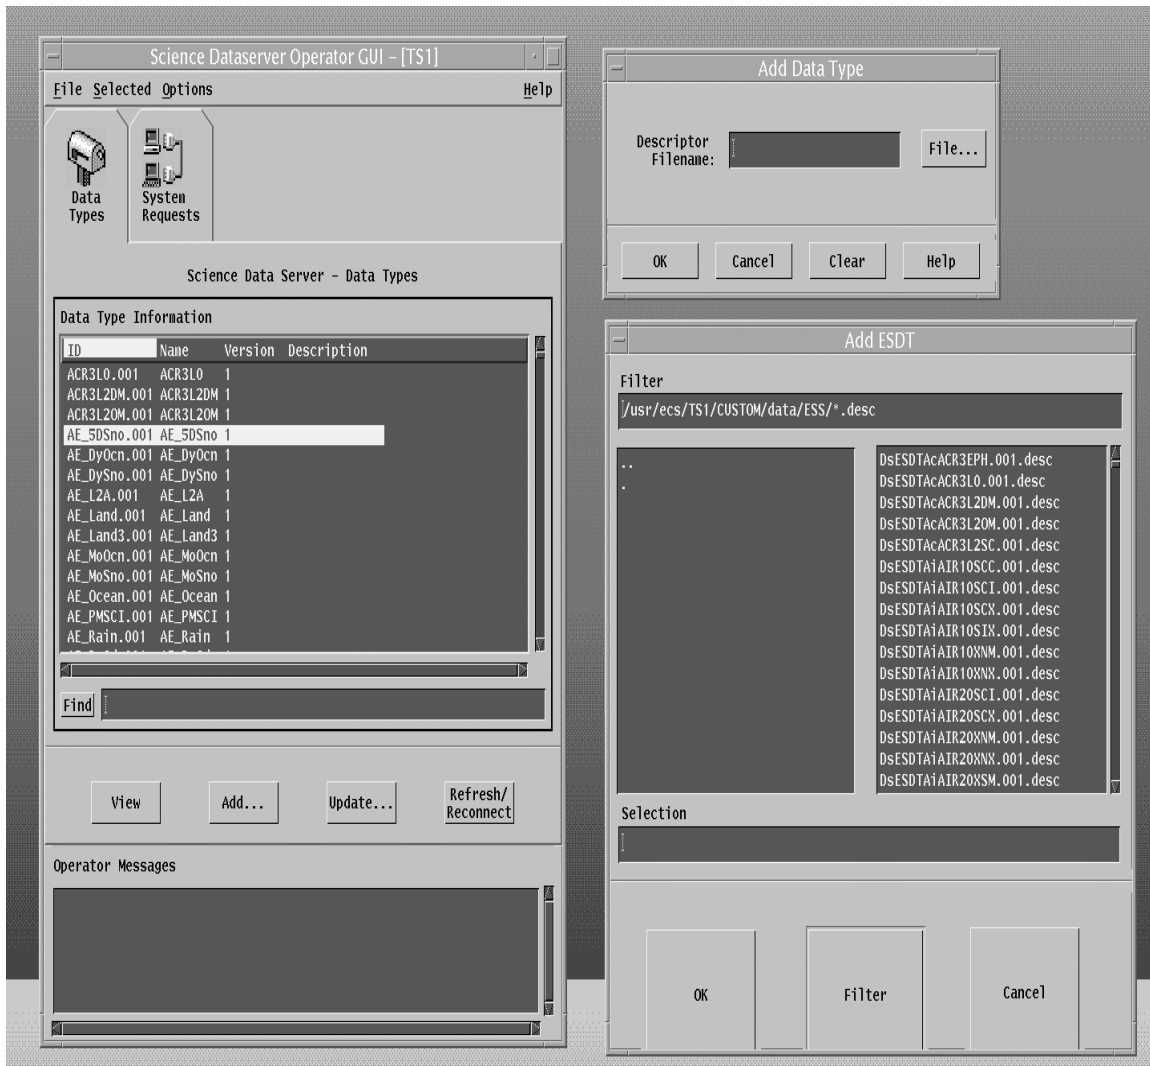

Figure 17. Adding An ESDT - The GUIs Involved
- This brings up the Science Operator Dataserver GUI as shown in Figure 17.
- This brings up the **Add Data Type** GUI as shown in Figure 17.
- This brings up the **Add ESDT** GUI as shown in Figure 17.